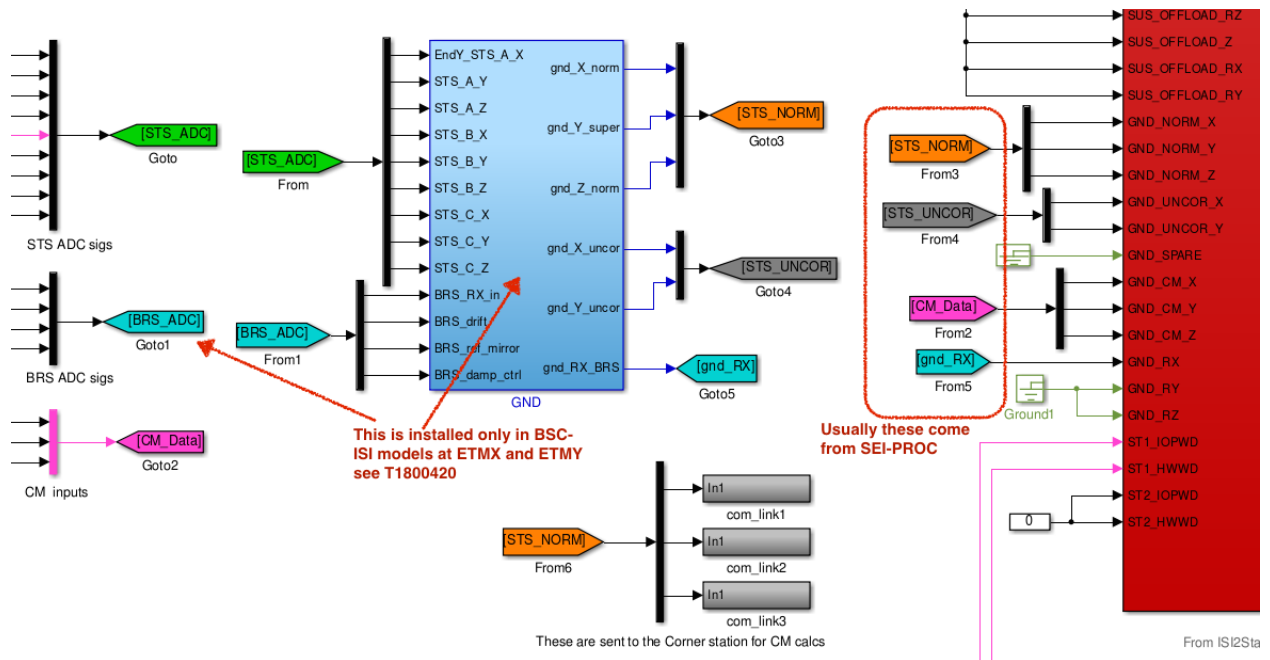

Figure 1: New ground inputs for the isi2stagemaster_SC_2018 library part.
7. Fix the GND inputs. The 9 old STS inputs have been replaced by 9 new GND inputs. For the End Station models, connect these as shown in figure 1. For the other models, these get connected to signals from the SEI-PROC model.